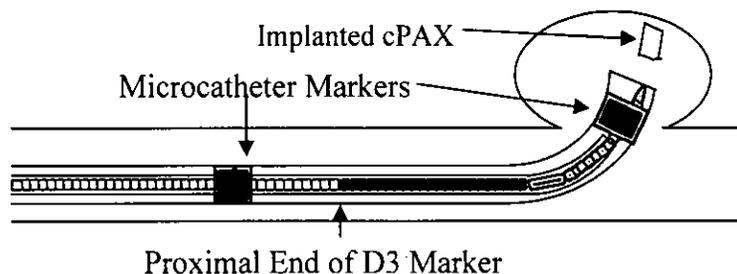

Figure 7 - D3 / Microcatheter Marker Alignment
2.8 Under fluoroscopic observation continue to advance the cPAX into the lumen of the Microcatheter. The proximal end of the radiopaque marker of the D3 should not extend more than 2-3mm distal of the microcatheter proximal markerband during advancement of the cPAX. (Figure 7)
3.10 After detachment is confirmed an end of the implanted cPAX will be inside the microcatheter. Simultaneously advance the non-implanted cPAX and D3 until the proximal end of the marker on the D3 is situated approximately 2 mm distal of the proximal marker on the microcatheter. This will push the end of the implanted cPAX material into the aneurysm. (Figure 7)